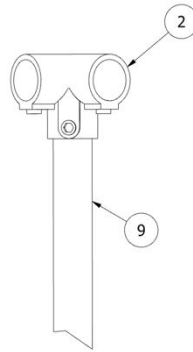

FIGURE 7
4. Place ITEM 2 on the top of ITEM 9(used in step 1 and/or 2) and push the tee fitting in place assuring that the fitting is firmly seated on the vertical support pipe. Lock in place by tightening hex set screw. **SEE FIGURE 7.** Repeat for other side.